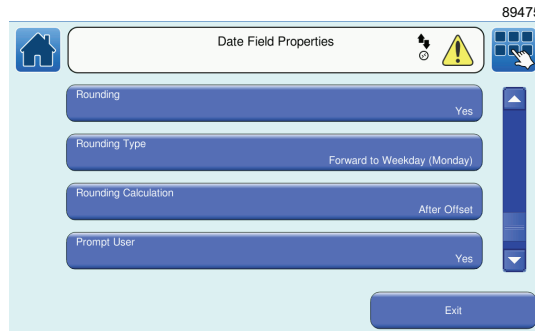

Figure 84. Date Field Properties Screen - Date Rounding
- 2 Touch the **Edit Properties** button to display the **Date Field Properties** screen shown in Figure 84. Scroll down to the **Rounding** button. By default this option is set to **No**. To enable rounding touch the **Rounding** button. The option is now set to **Yes** and the Rounding settings fields are available.